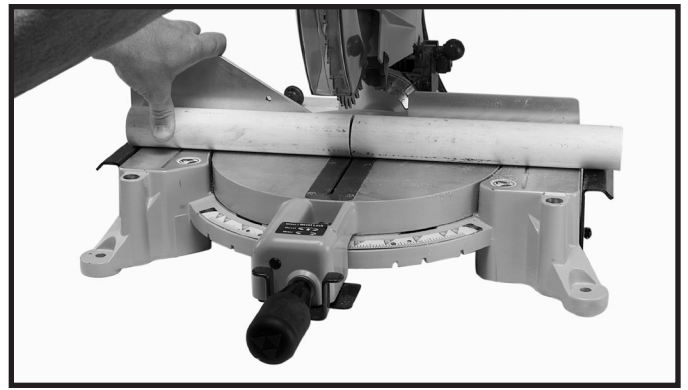

Fig. 38
5. various sizes of plastic pipe (Fig. 38).